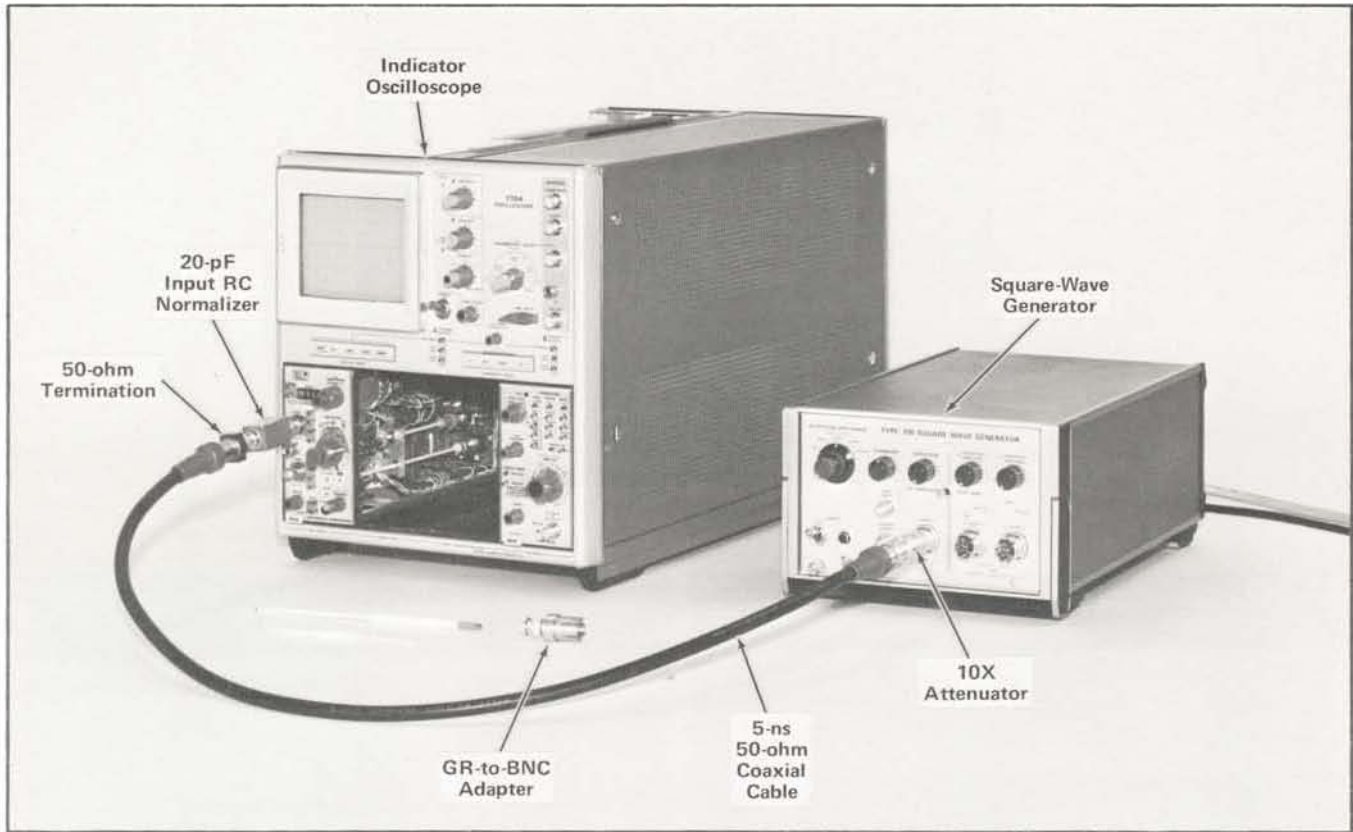

Fig. 5-16. Equipment required when performing steps 18 and 19.
18. Check/Adjust +INPUT Attenuator Compensation ❶
a. Test equipment setup, with connections made at completion of step 18c, is shown in Fig. 5-16.
c. Insert the 50-ohm termination in place of the GR-to-BNC adapter. Reconnect the 10× attenuator between the coaxial cable and Type 106 Output connector. This is the same setup as shown in Fig. 5-16 except the signal is applied to the —INPUT connector.